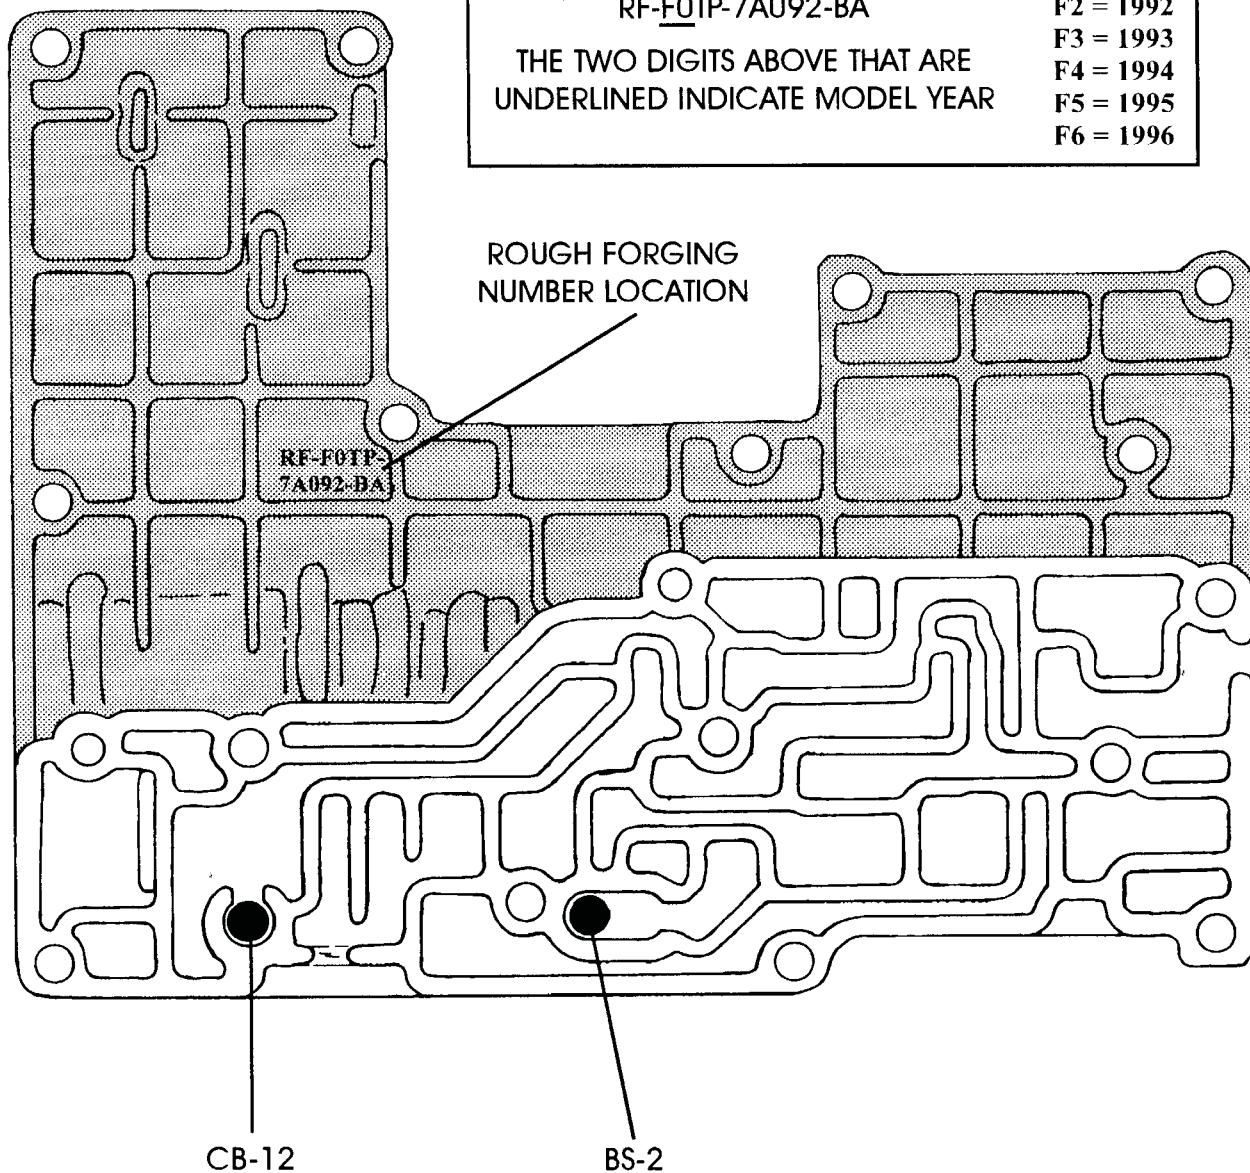
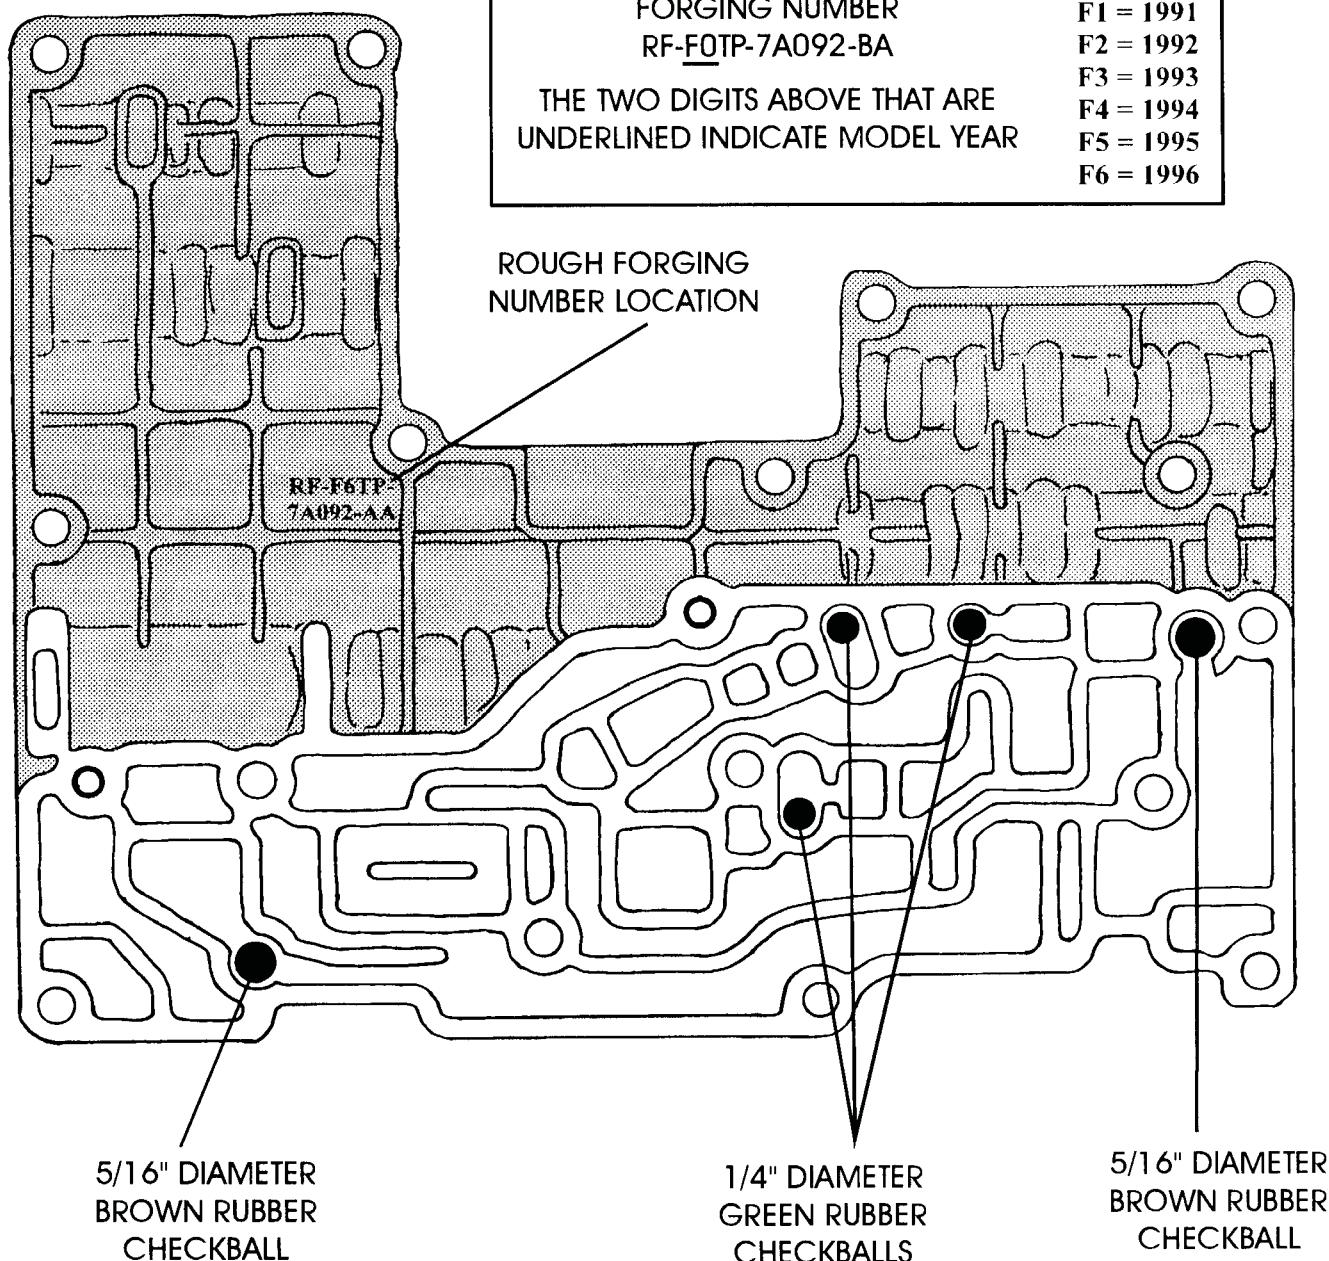

Figure 1
Figure 2
(1) **VALVE BODY CHECKBALL LOCATIONS** - Have remained the same for 1989 thru 1995 model years, with **TWO** 5/16" rubber checkballs, and their locations are shown in Figure 1. Beginning in the 1996 model year there are **FIVE** checkballs in the main valve body and their locations are shown in Figure 2. Notice that there are two 5/16" rubber balls and three 1/4" rubber balls. The 1/4" rubber balls are green in color (See Figure 2).
- (5) **MAIN VALVE BODY** - Has changed twice since the introduction in 1989 as listed below.
**1989 Models Only** - Can be identified by the differences in the worm track area at the 1-2 shift valve, as shown inside the circles in Figure 14. The best, and most accurate method to identify the valve body, is the rough forging number cast into the valve body in the location shown in Figures 1 and 2.
**90-95 Models Only** - Can be identified by the differences in the worm track area at the 1-2 shift valve, as shown inside the circles in Figure 14. The best, and most accurate method to identify the valve body, is the rough forging number cast into the valve body in the location shown in Figures 1 and 2.
**1996-UP Models Only** - Has a multitude of worm track location differences from the previous models, as shown in Figure 15. The best and most accurate method to identify the valve body, is the rough forging number cast into the valve body in location shown in Figures 1 and 2.
The 1996-Up models have a multitude of worm track location differences than the previous models, to accommodate the added valve body checkballs, as shown in Figure 17. The best, and most accurate method of identification is the rough forging number cast into the lower valve body using the formula in Figures 1 and 2.
NUMBER AS SHOWN IN FIGURES 1 AND 2***